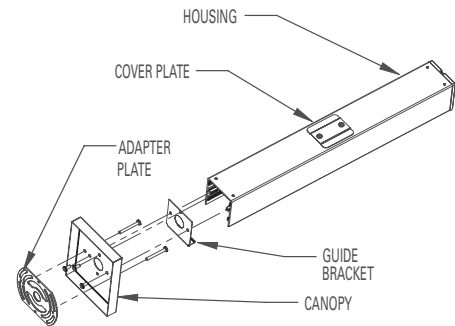

FIGURE 8
- For end mount, remove the endcap on the desired end, and replace it with the canopy and guide bracket (See Figure 8). Replace the cover plate over the hole in the center of the housing.